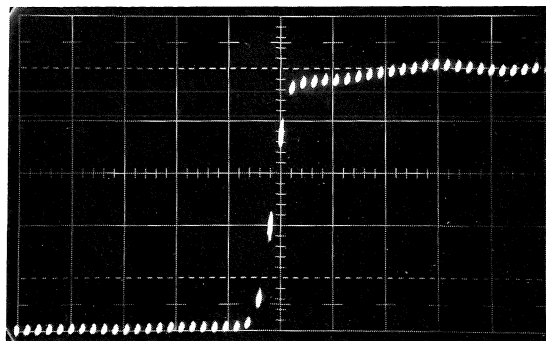

Figure 5-49
5. By adjusting the mVOLTS/CM switch and the 111 VARIABLE ATTENUATOR obtain 5 cm of 111 Pulse amplitude (see figure 5-49).